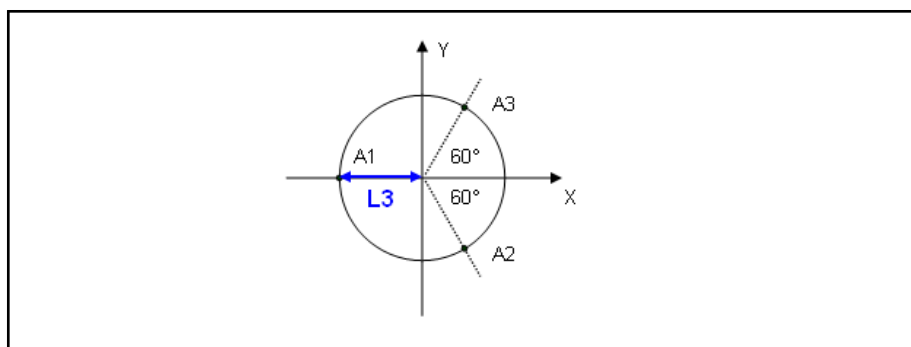

Fig. 4-29: Radius $L3$ of the joint base and the coordinate system (X-Y view)
- L_3 is the radius of the perimeter formed by the three motor spindles (or gears), measured at the rotary center points of the arms (see fig. 4-29 "Radius L3 of the joint base and the coordinate system \(X-Y view\)" on page 138)
- The Cartesian zero point for the delta robot is at the center point of the perimeter defined by the three motor spindles (see also fig. 4-29 "Radius L3 of the joint base and the coordinate system \(X-Y view\)" on page 138)